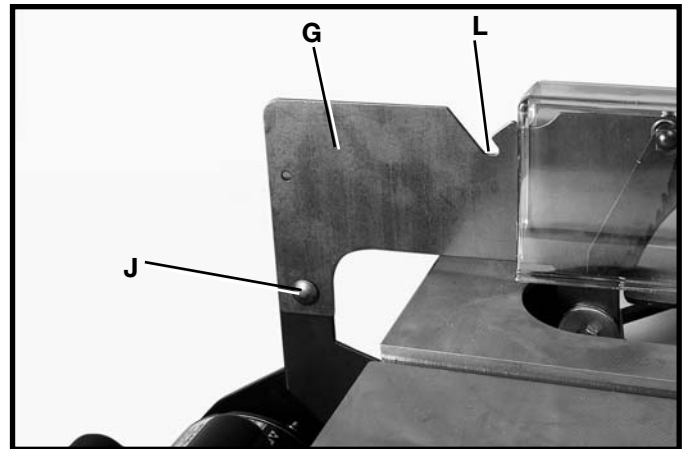
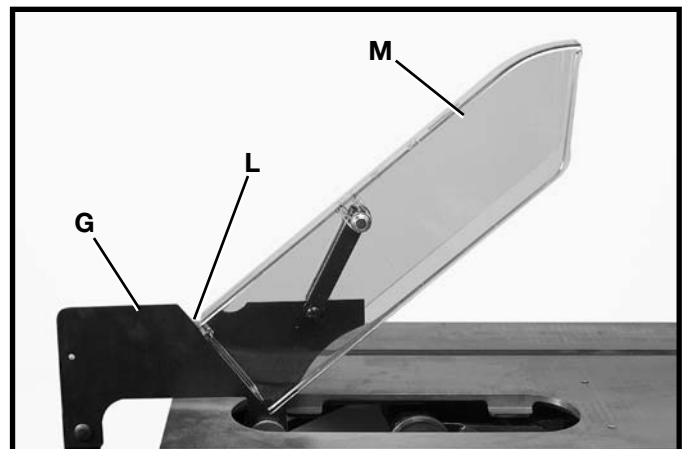

Fig. 31
Fig. 32
8. Fasten the rear of the blade guard and splitter bracket assembly (G) Fig. 31, to the rear splitter mounting bracket using 5/16-18 x 5/8" carriage bolt (J), flat washer, and hex nut. Assemble carriage bolt through hole, add flat washer then hex nut and tighten. **IMPORTANT:** The splitter (G) Fig. 31, has a notch (L) cut in the top edge as shown. This feature will enable the blade guard to stay in the raised position to make blade changing easier. Raise the front of blade guard (M) Fig. 32, until the rear edge of the blade guard slips into notch (L) of splitter (G); the blade guard will stay in this position.